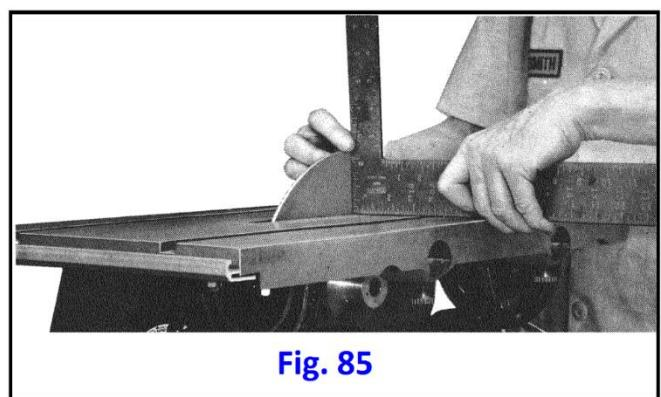

Fig. 85
1. Square table to taper of conical side of disc. (Fig. 85)